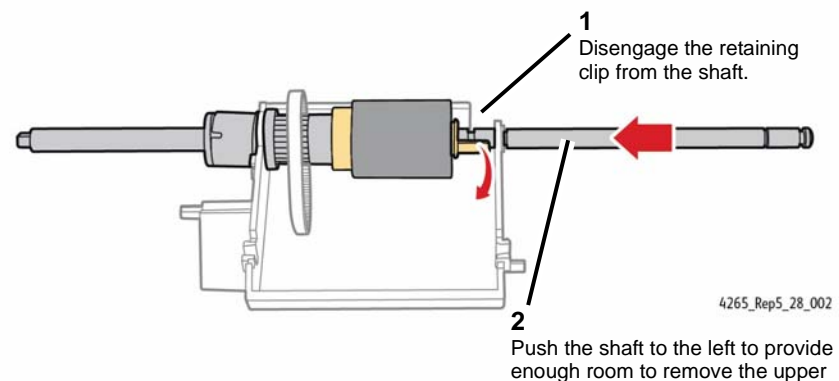

Figure 2 Preparing to Remove the Upper Roller
4. Prepare to remove the upper roller (Figure 2).